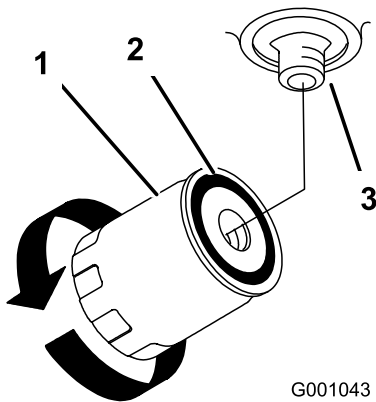

Figure 64
4. Apply a thin coat hydro fluid to the rubber gasket on the replacement filter (Figure 64).
6. Fill the hydraulic tank with hydraulic fluid until the fluid overflows the filter and then turn the oil filter clockwise until the rubber gasket contacts the filter adapter, then tighten the filter an additional 1/2 turn (Figure 64).